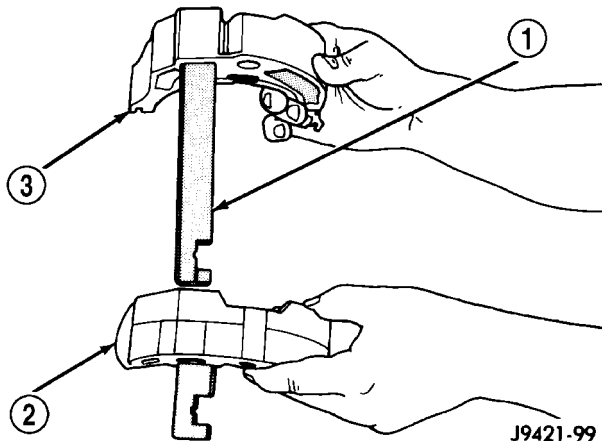

Fig. 93 1-2 AND FIFTH-REVERSE
(12) Assemble 1-2 and fifth reverse-shift forks (Fig. 93). Arm of fifth-reverse fork goes through slot in 1-2 fork.